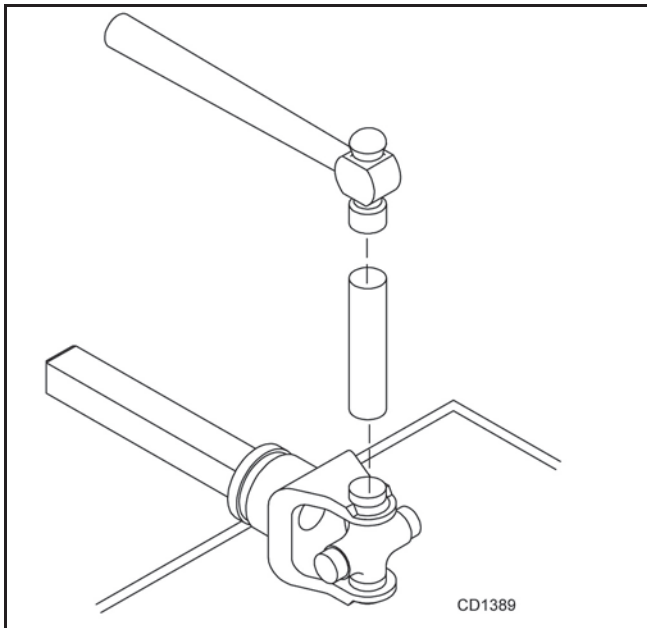

Figure 32. Install Cups
3. Seat cups by placing a drift or socket (slightly smaller than the cup) on cup and rap with a hammer. See Figure 32. Install snap ring and repeat on opposite cup